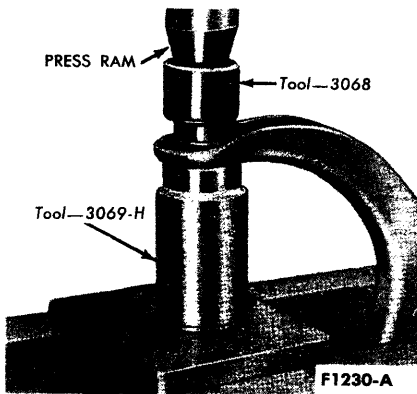

FIG. 12—Installing Upper Arm Rear Bushing
6. Press the upper arm rear bushing into the arm using the support cup, tool 3069-H, and the replacer, tool 3068 (Fig. 12). Press the bushing in until the shoulder stop is reached.